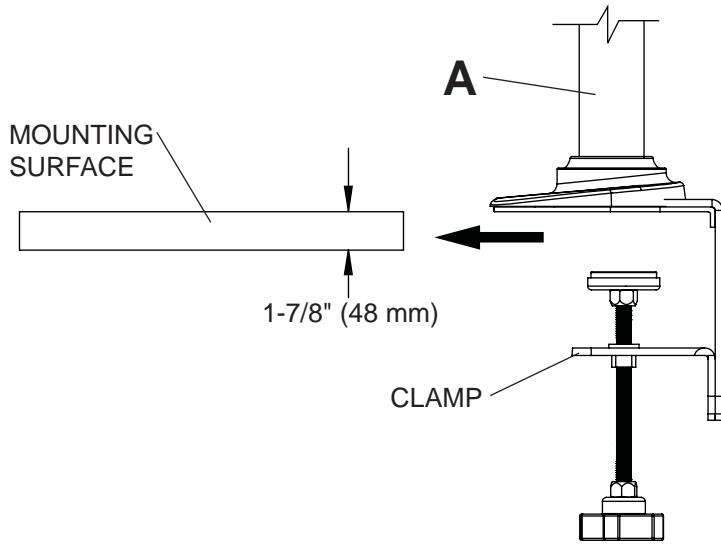

fig. 1.1
- 1 Pipe assembly (A) can be mounted to mounting surface with a maximum thickness of 1-7/8" (48 mm) . Insert the clamp onto mounting surface as shown in figure 1.1. Turn handle to tighten pipe assembly (A) to mounting surface until firmly attached as shown in figure 1.2.